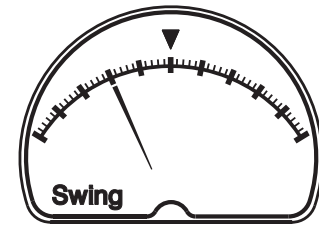

Figure 7-7-2: Pressure swing indication
**Example: for the ADT681 with (0~100) kPa, if the current pressure reading is 50.01kPa and the previous pressure was 50.11kPa, the fluctuation degree for 2 separate pressures is -0.1%FS, as figure 7-7-2 shows.**